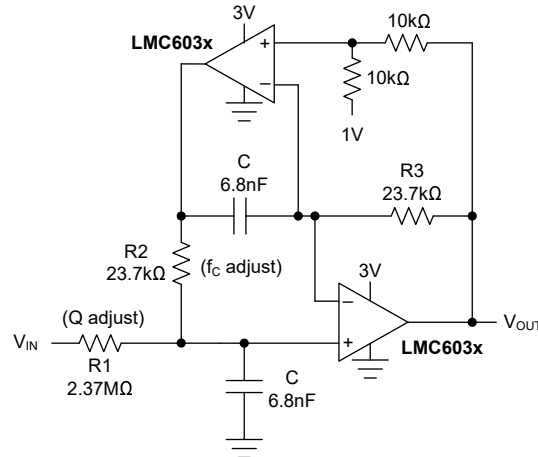

Figure 7-9. Active 2-Pole Bandpass Filter (1kHz)
The dual-amplifier bandpass (DABP) filter features the ability to independently adjust f_c and Q . In most other bandpass topologies, the f_c and Q adjustments interact with each other. The DABP filter also offers both low sensitivity to component values and a high Q . The following application of Figure 7-9, provides a 1kHz center frequency and a Q of 100.
1. First choose a center frequency (f_c). Figure 7-9 represents component values that were obtained from the following computation for a center frequency of 1kHz.